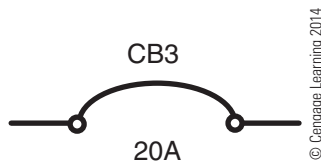

Figure 4-49 Circuit breaker schematic symbol.
The schematic symbol for a circuit breaker (CB) is a sideways C, as shown in **Figure 4-49**. Like a fuse, the current rating of the circuit breaker is often displayed next to the schematic symbol along with identification such as CB3.